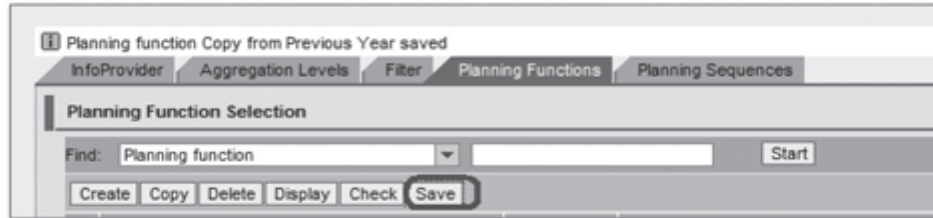

Figure 12.53 Save Planning Function
8. Finally, save the planning function by clicking on the SAVE button on the Planning Functions tab (Figure 12.53).